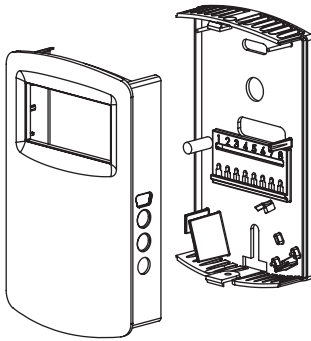

Figure 1: Removal Of Cover From Back Plate
1. Push tab on top and bottom of cover and lift cover from back plate (See Figure 1).
- Step 1: Remove the cover as shown in Figure 1.